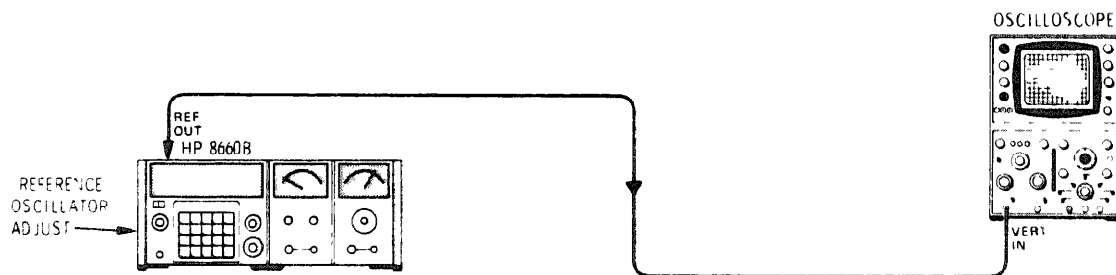

Figure 5-3. Alternate Reference Accuracy Adjustment Test Setup
2. Alternate Reference Accuracy Adjustment (see Figure 5-3)